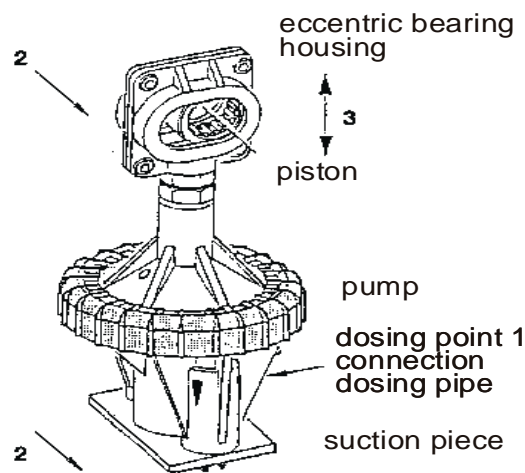

Fig. H-1: EXADOS®-pump
- Pump, fig. H-1
- Remove pump (see fig. H-1).
- Operate the pump manually until liquid leaks from the dosing hose. (see fig. H-1).
Longer periods of standstill may cause the seats of seals to dry out with the result that the automatic self-priming and self-deaerating of the pump does not take place. Unscrew the dosing hose from the dosing point and remove the pump from the pump carrier (2). Operate the pump manually (3) until the dosing agent leaks from the dosing point. Afterwards screw on the dosing hose again and fix the pump in the pump carrier (refer to fig. H-1).